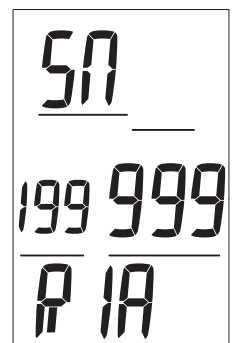

Fig. 46 - SN
**Serial Number**, information includes (Fig. 46):